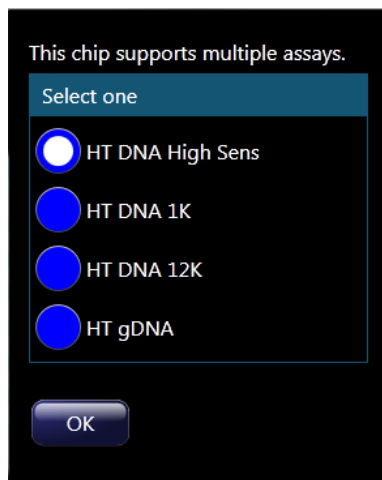
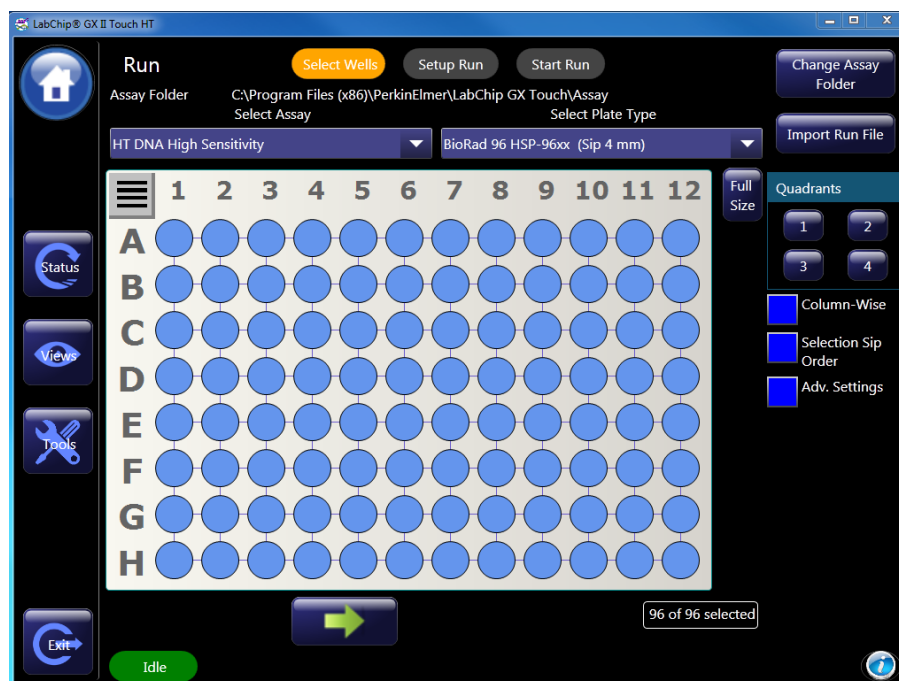

Figure 9. Assay Choice menu.
Figure 11. Selecting wells.
- 8 The *Assay Choice* window will appear (Figure 9). Touch the desired assay and then touch *OK*.
- 2 Select the appropriate assay type (see Figure 9), plate name, well pattern, and whether to read wells in columns or rows. Select number of times each well is sampled under *Adv. Settings* (Figure 11). Touch the *green arrow* button.